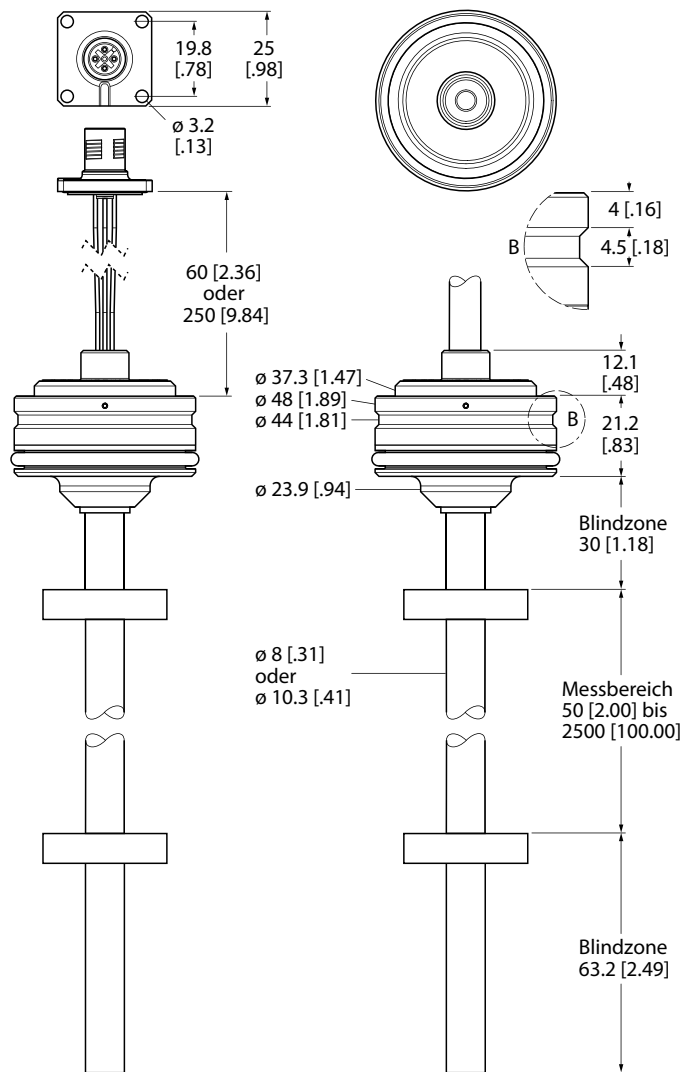

Fig. 1: Device dimensions of LTE-... with blind zones in mm [in]
- ▶ Prepare the cylinder head as shown below. For sensor dimensions, see fig. 1.